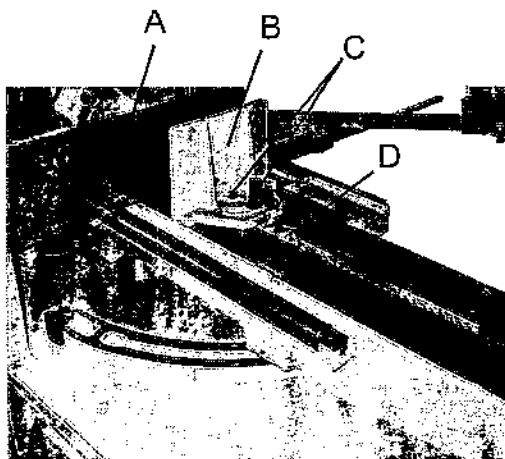

Fig. 24
1. Loosen bolts (C - Fig. 24)
3. Slide vise jaw (B - Fig. 24) flush to
fixed vise (A - Fig. 24) to match parallelly.
4. Once parallel tighten bolts (C - Fig. 24), then set position.
1. Pull up on the rack block (D - Fig. 24).